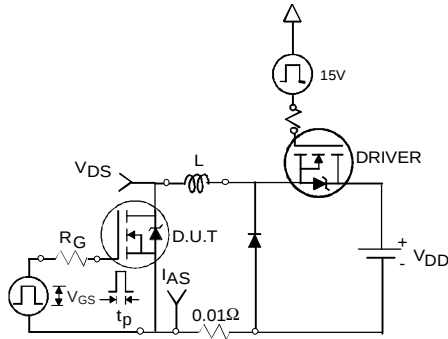

Fig 12a. Unclamped Inductive Test Circuit
3. Equation below based on circuit and waveforms shown in Figures 12a, 12b.
- ② Limited by T_{Jmax} , starting $T_J = 25^\circ\text{C}$, $L = 0.18\text{mH}$, $R_G = 25\Omega$, $I_{AS} = 18\text{A}$, $V_{GS} = 10\text{V}$. Part not recommended for use above this value.
- ③ Pulse width $\leq 1.0\text{ms}$; duty cycle $\leq 2\%$.
- ④ C_{OSS} eff. is a fixed capacitance that gives the same charging time as C_{OSS} while V_{DS} is rising from 0 to 80% V_{DSS} .
- ⑤ Limited by T_{Jmax} , see Fig.12a, 12b, 15, 16 for typical repetitive avalanche performance.
- ⑥ This value determined from sample failure population. 100% tested to this value in production.
- ⑦ When mounted on 1" square PCB (FR-4 or G-10 Material). For recommended footprint and soldering techniques refer to application note #AN-994